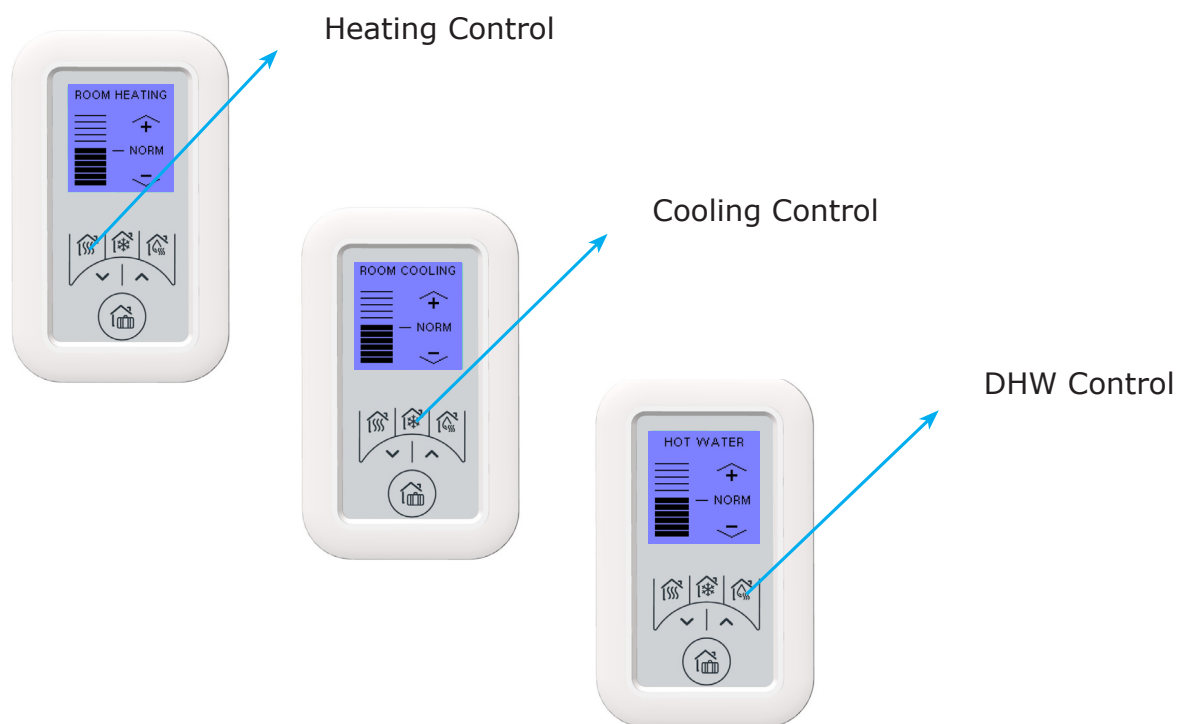

Figure 4: Advanced User Controls
- Press the corresponding button highlighted in Figure 4.